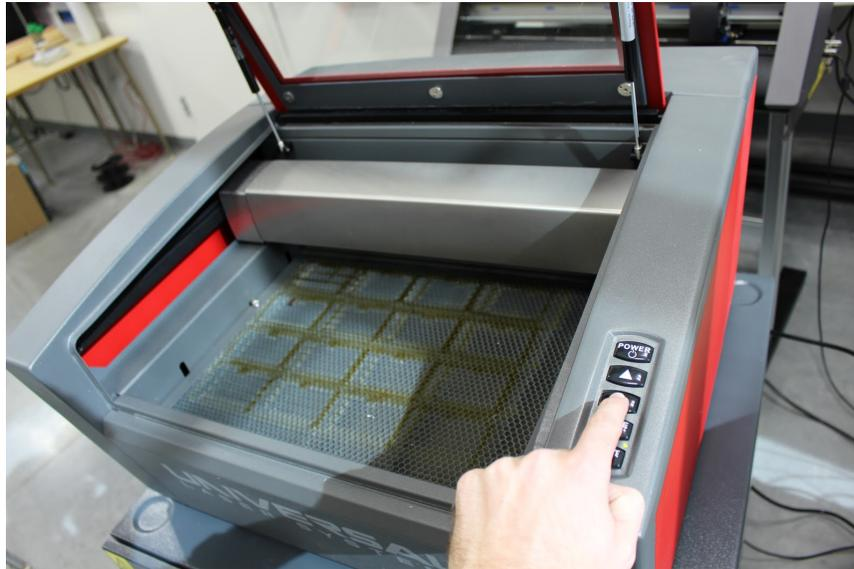

Figure 13 - Lowering the Laser Bed
1. Remove the existing table by powering on the laser and fully lowering the table by pressing and holding the down button on the right hand side of the laser (Figure 13). If you do not lower the table to the very bottom you may damage the laser in a future step.